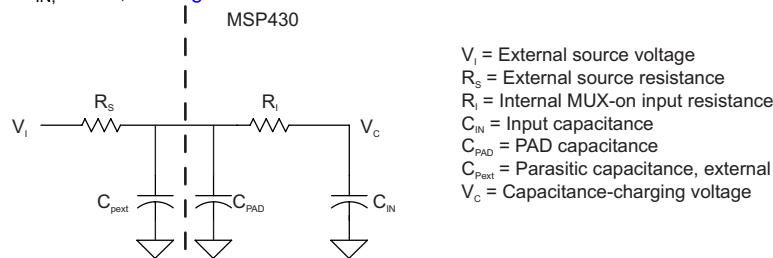

Figure 5-16. eCOMP Input Circuit
(1) For details on the eCOMP C_{IN}, model, see Figure 5-16.